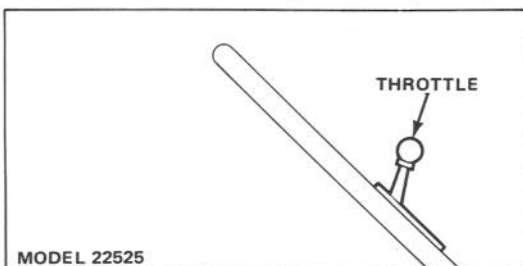

Figure 5
3. **STARTING** (Model 22525) — Move throttle to **CHOKE**. Pull fingertip starter out slowly until positive engagement results; then pull vigorously to start the engine. Regulate throttle as desired when engine starts (Fig. 5). When temperature is near 40°F, a few extra pulls may be required because the engine needs priming.